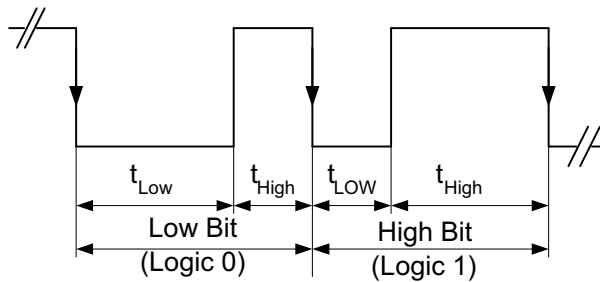

Figure 16. EasyScale Bit Coding
- **High Bit:** $t_{High} > t_{Low}$, but with t_{High} at least twice the duration of t_{Low} , see Figure 16.
- **Low Bit:** $t_{High} < t_{Low}$, but with t_{Low} at least twice the duration of t_{High} , see Figure 16.